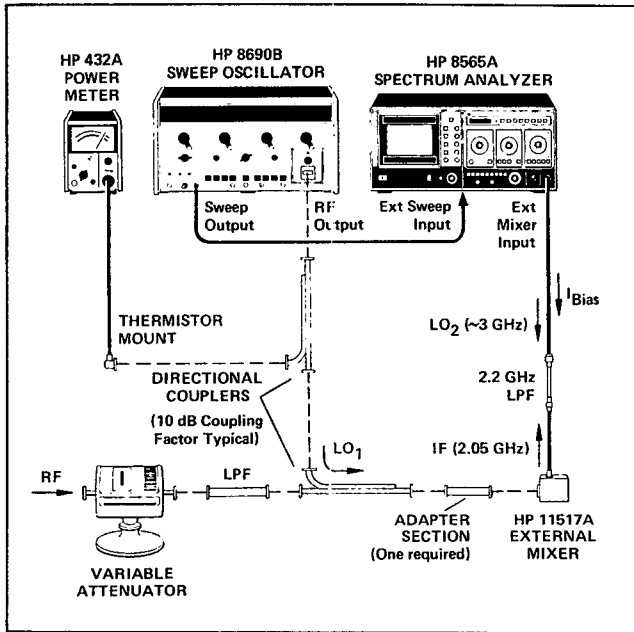

Figure 2. Fundamental mixing set-up.
In the fundamental mixing mode, the external mixer is connected to the spectrum analyzer as shown in Figure 2.
1. INITIALIZE CONTROLS: Use the set-up in Figure 2 and set the controls as follows: